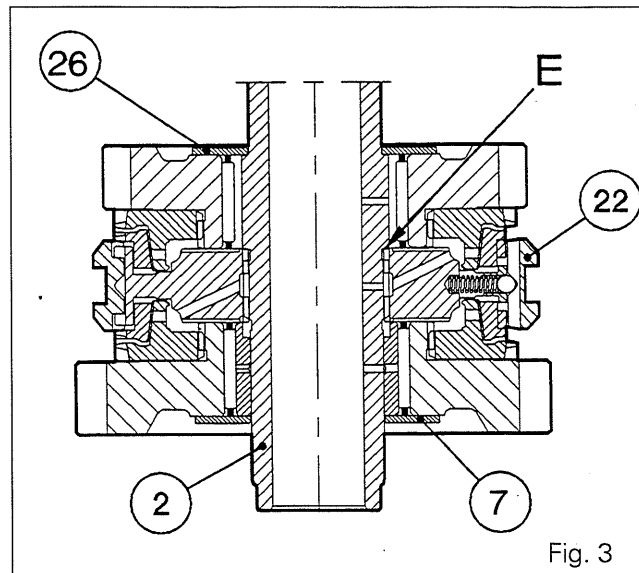
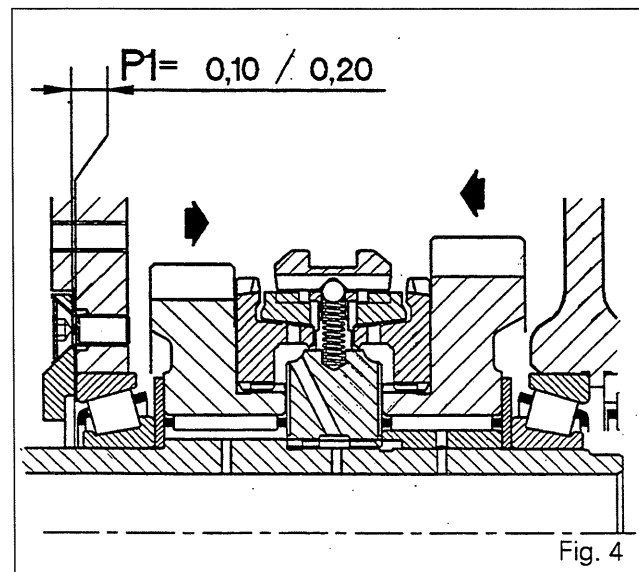

Fig. 3
Fig. 4
14. If necessary, extract cone (3) from the shaft and remove washer (26).
16. On the secondary shaft (2), shaft (14) and housing (30), check that the holes and oilways are all clear.
19. If removed, place washer (26) on the shaft (2) and press on the cone (3) until the washer is tight against the step on the shaft.
20. Fit gear (19), bush /6\ with its collar facing towards the synchro (22). Fit needle roller bearing (5), synchro cone (20), ring (21), synchro, ring (23), synchro cone (24), gear (25) and needle roller bearing (4).
22. Centre the rear washer (7). Insert secondary shaft (2) into the synchro assembly (31) through the bore in the front of the unit.
23. Fit the shaft (2) whose recess "E" must be fully home on the synchro hub (Fig. 3)
24. Position cup (27) and retaining plate (29) without the shims [1].
25. Fit and tighten screws (28) to a torque of 36 - 46 Nm.
**$P1 = 0.10$  to  $0.20$**  (Fig. 4)